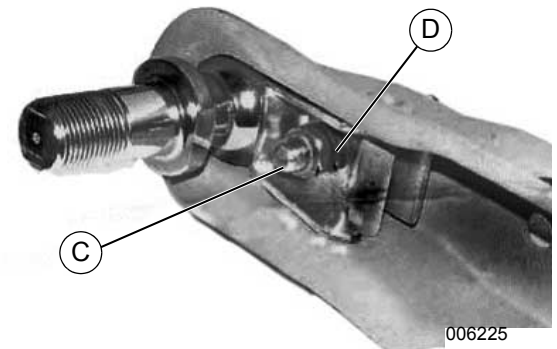

Figure 4-16. Ball Receiver Adjustment Check
1. See Figure 4-16. With 2" ball in receiver socket, close receiver latch completely. Verify locking trigger is engaged in detent.